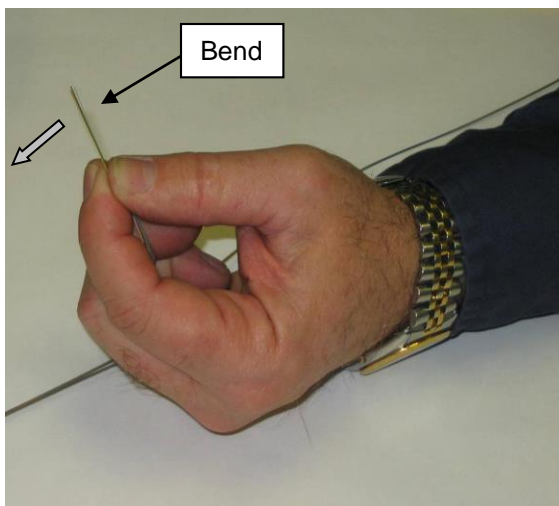

Figure 15
8.6.2 To help locate ripcord, pinch first inch of Sub-Unit between thumb and index finger. Gently bend fiber stands and ripcords over and then let them spring back. **See Fig. 15.**